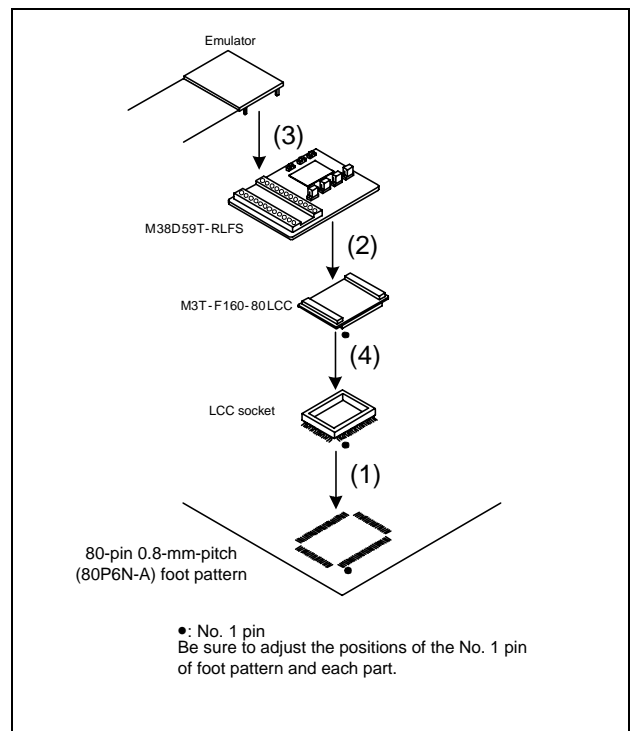

Figure 2 Connection procedure of the M38D59T-RLFS
4. Connection Procedure (See Figure 2)